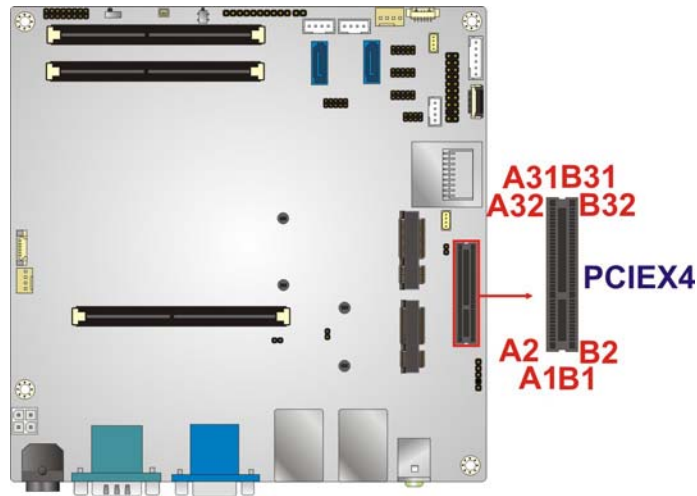

Figure 3-16: PCIe x4 Slot Location
- CN Location:** See **Figure 3-16**